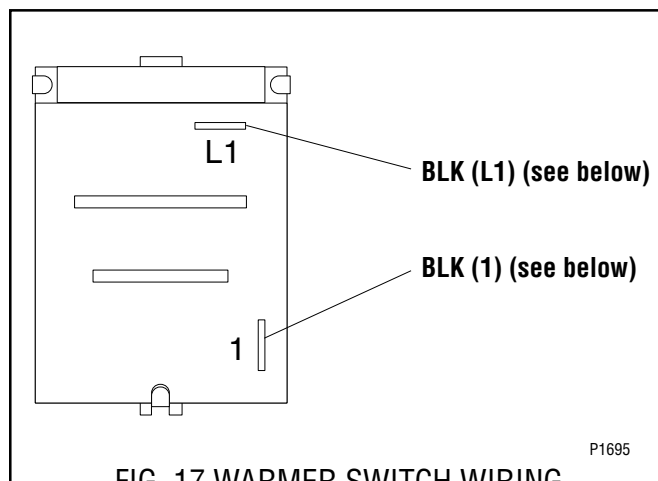

FIG. 17 WARMER SWITCH WIRING
4. Refer to FIG. 17 when reconnecting the wires.